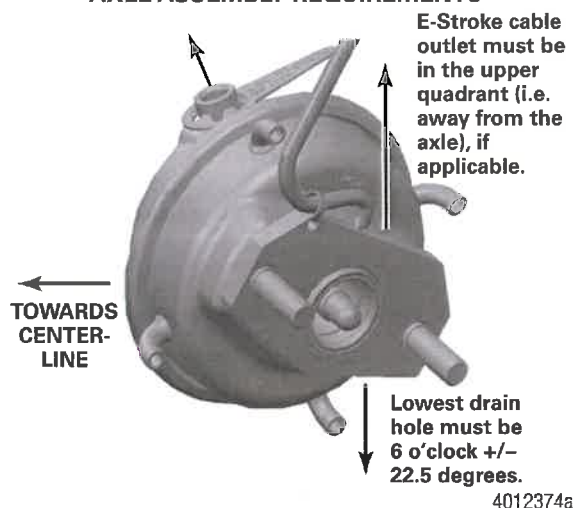

Figure 6
4. Position the chamber onto the caliper. Determine which of the two possible brake chamber orientations places the ports in the most accessible position. Figure 6.